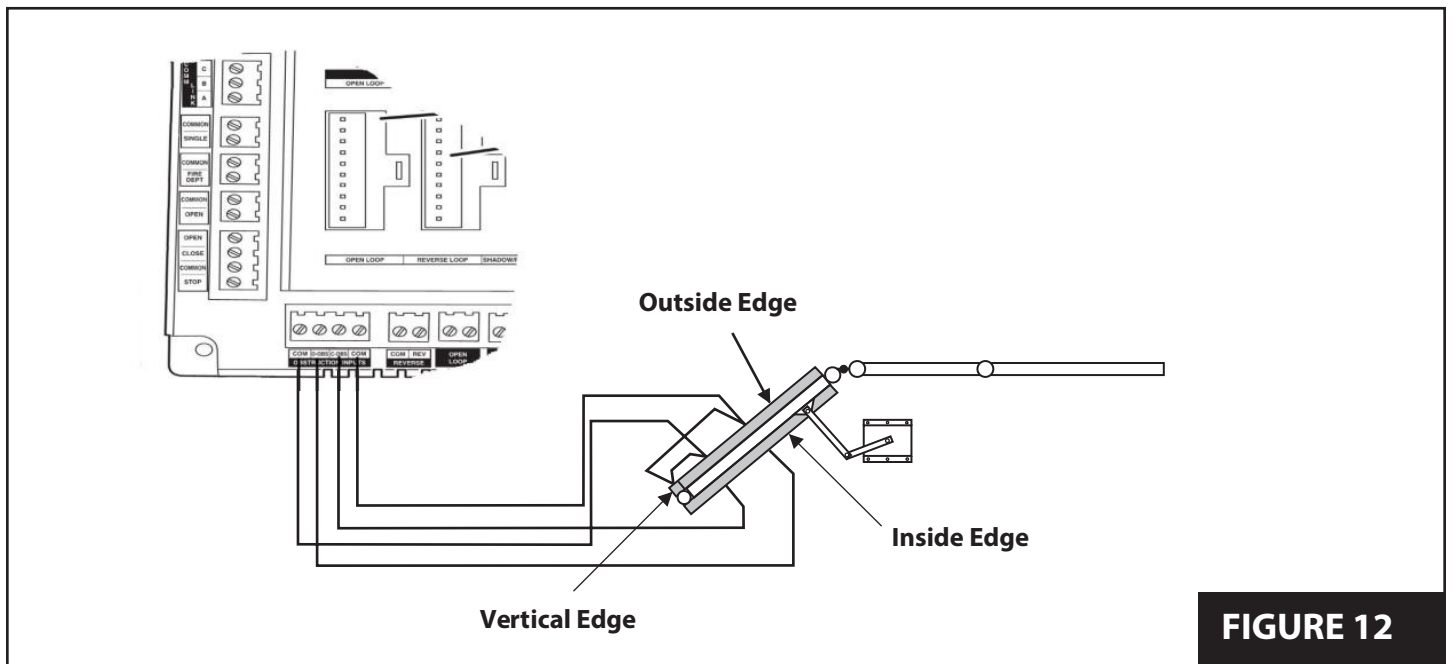

FIGURE 12
2. Connect contact sensor edges to the control board as shown in **Figure 12** below.